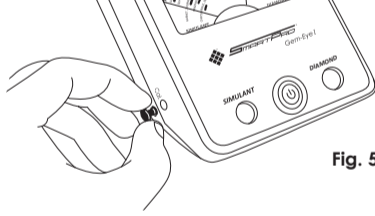

Fig. 5.1
Step 5. Remove the cover of the Cal. in the left side of the tester (**Fig. 5.1**).